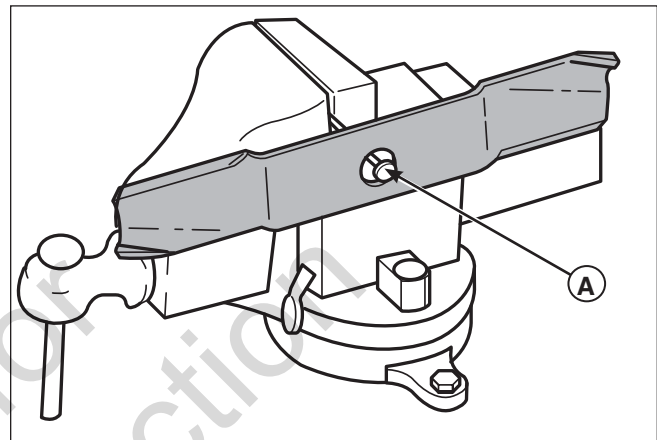

Figure 37. Balancing the Mower Blade
2. See Figure 37. Put the mower blade on a nail in a vise and turn the blade to the horizontal position.